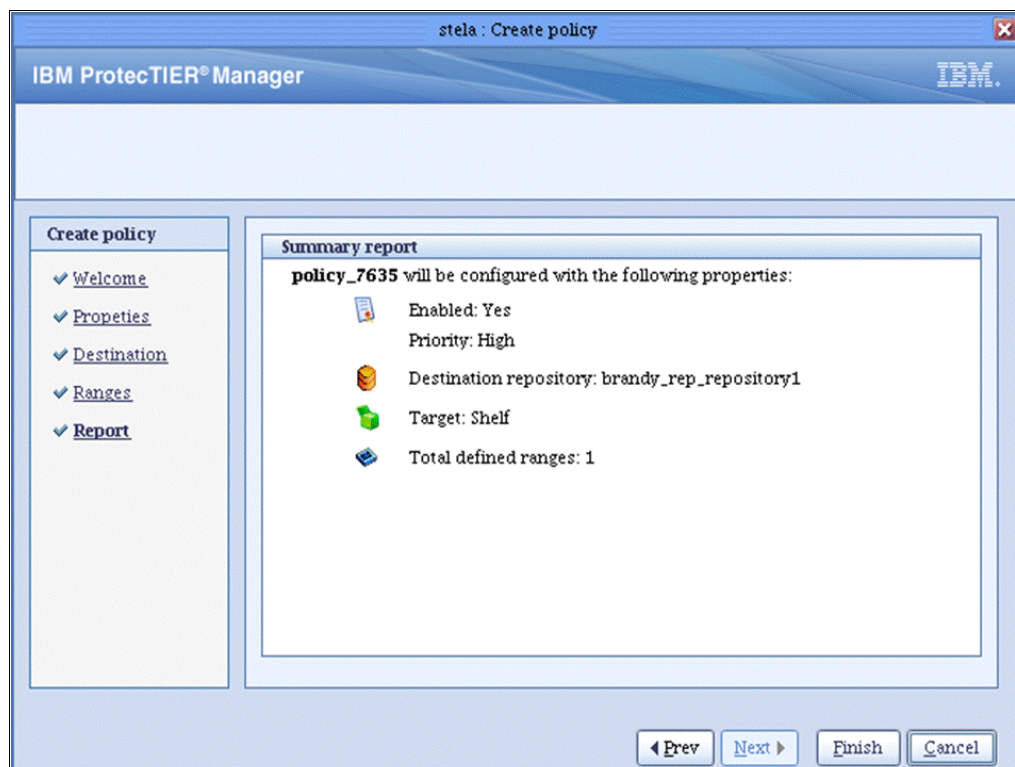

Figure 8-5 Replication policy
- ▶ Defines policies and assigns priorities (Figure 8-5).